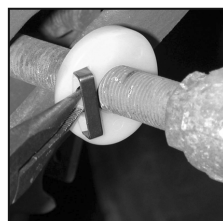

Fig. 7
Step 7. Secure the BrakeSentry indicator to the pushrod by inserting needle nose pliers into the two holes provided at either side of the split parting. Squeeze together and insert the retaining clip through the slits (Fig. 7)